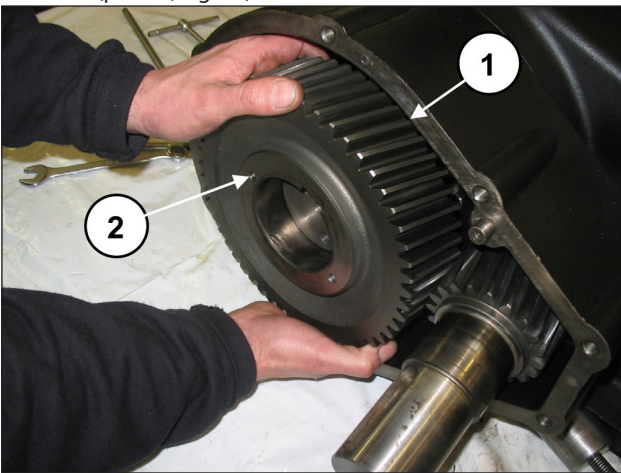

Fig. 12
Remove the ring gear (pos. ①, Fig. 12). If necessary, it is possible to use an extractor hammer to be applied on the 2 M8 holes (pos. ②, Fig. 12).